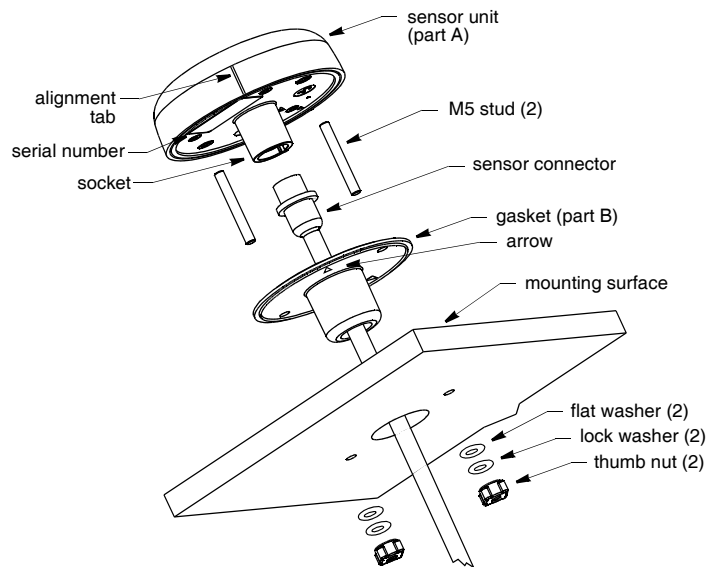

Figure 3. Flush mount
1. Remove the label from over the sensor unit's socket (see Figure 3). Apply *removable* thread locker to the two studs supplied. Screw the studs into the underside of the sensor unit (part A).